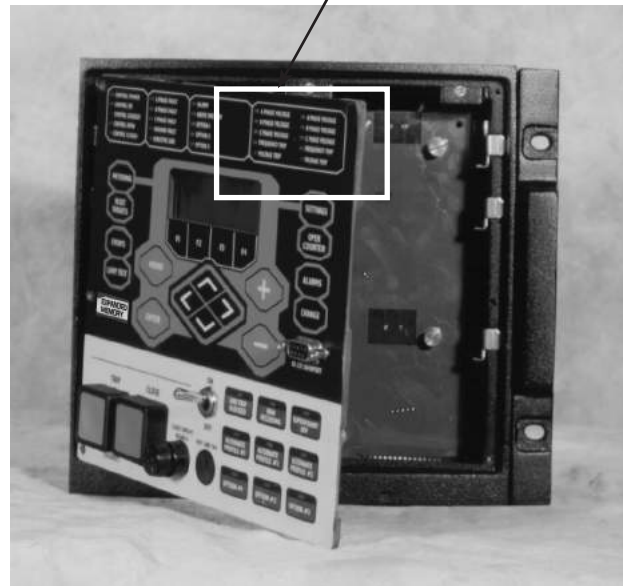
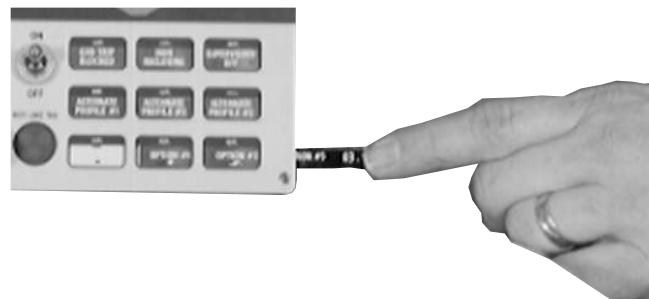

Figure 26. Open front panel. Labels are easily removed from and inserted into the top of the programming panel LED status indicator section
Figure 27. Labels are easily removed from and inserted into the operating panel
3. Pull the right side of the front panel out towards the left (**Figure 26**).
Note: The insert will slide out of the right side of the operating panel (**Figure 27**).
Note: The insert will slide out of the top of the programming panel indicator section (**Figure 26**).
- Gently push the removable insert from right to left into the right side of the operating panel (**Figure 27**) or down into the programming panel LED indicator section (**Figure 26**).